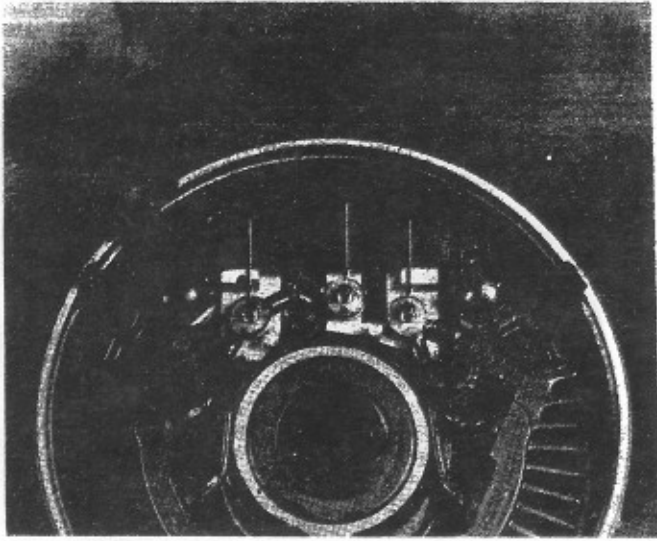

Figure 9
- 9.1.2 Connect positive (+) test lead to each of the three eyelet terminals. Fig. 9.